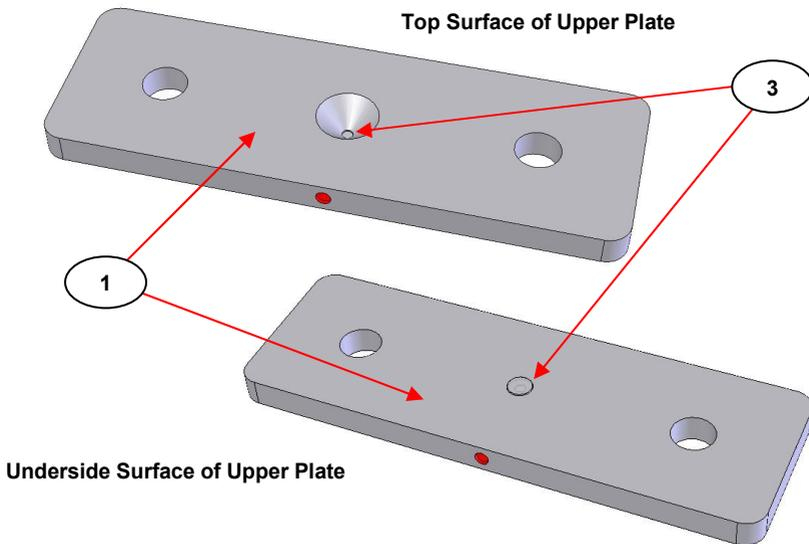
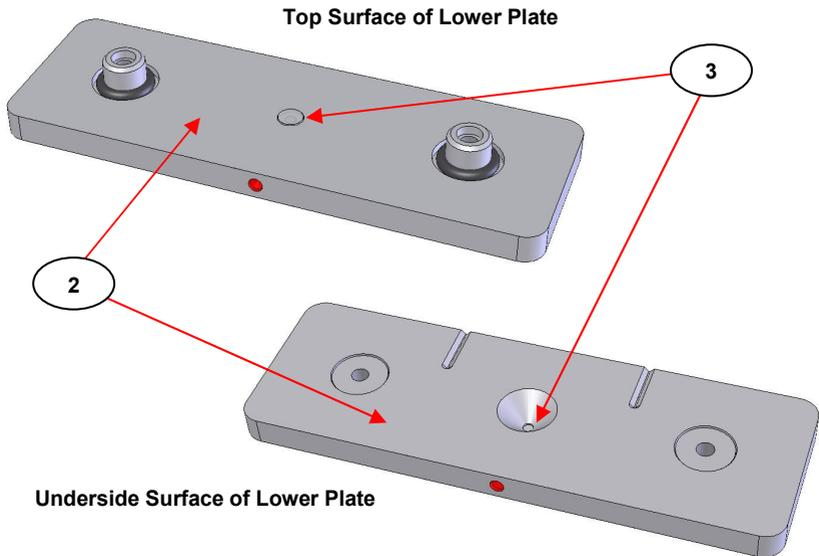

Fig 1. Upper Support Plate Assembly of DC-3
Fig 2. Lower Support Plate Assembly of DC-3
The DC-3 diamond compression cell consists of an upper (1) and lower (2) 440C stainless steel rectangular support plate that each contain a type IIIa mono-crystalline diamond window (3) with an aperture of 1.5mm diameter that has been glue fixed into the centre recess on one surface of the support plate. **Fig 1.** shows the top and underside surface views of the **upper (1)** support plate assembly and **Fig 2.** shows the top and underside surface views of the **lower (2)** support plate assembly.
In construction of the DC-3 to compress a sample the lower (2) support plate is placed onto a level surface with its top surface (see from **Fig 2.**) uppermost. An appropriate amount of sample is taken to cover the 3.5mm diameter diamond window (3). Use of the scalpel blades and forceps provided in a DC-3 Kit can help in the manipulation of the sample onto the lower diamond window (3) surface. (See **Fig 4.**)
When the sample has been correctly positioned take the upper (1) support plate and carefully place it over the lower (2) support plate assembly. The diamond window (3) from the underside surface of the upper (1) support plate (see from **Fig 1.**) is to be brought into contact with the sample placed over the diamond window (3) on the lower (2) support plate. The fixing thumb screw holes (4) of the upper (1) support plate are aligned over the fixing thumb screw support posts (5) of the lower (2) support plate. When aligning the parts ensure that the red dot indicators on the edge of both support plates (1) and (2) will be on the same side when the support plates are tightened together.